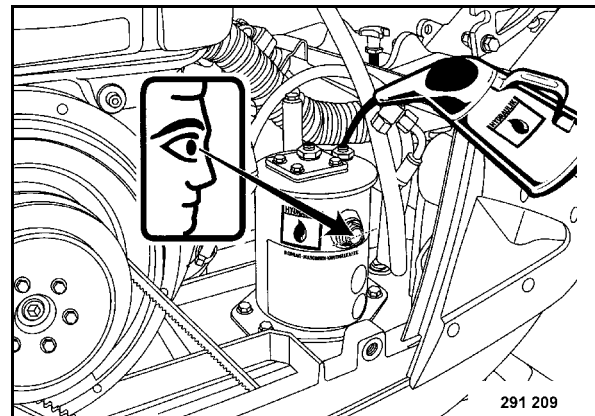

Fig. 78
- Fill in new hydraulic oil (Fig. 78).